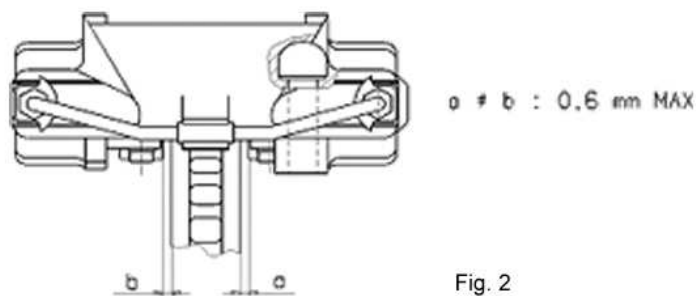

Fig. 2
- c. The caliper must be mounted in a symmetrical position with respect to the disc center line: the difference between the dimensions "a" and "b" must be 0,6 mm MAX (see fig. 2).